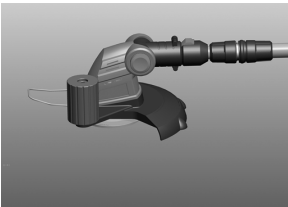
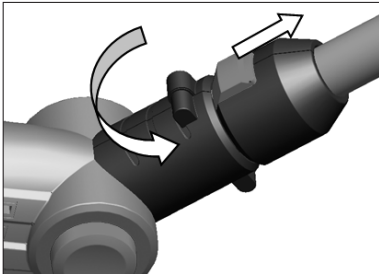

Fig.10
Fig.16
To use the trimmer in edging mode, as shown in Fig.16. Slide the lock sleeve and edging function button (10) and rotate the lower part of the trimmer 90° until the button aligns with the angle adjustment handle (11). Release the locking knob. Then setting the trimmer head angle as shown in FIG.10. The trimmer will lock into edging mode (Fig.15). Return to normal trimming mode as shown in Fig.17.